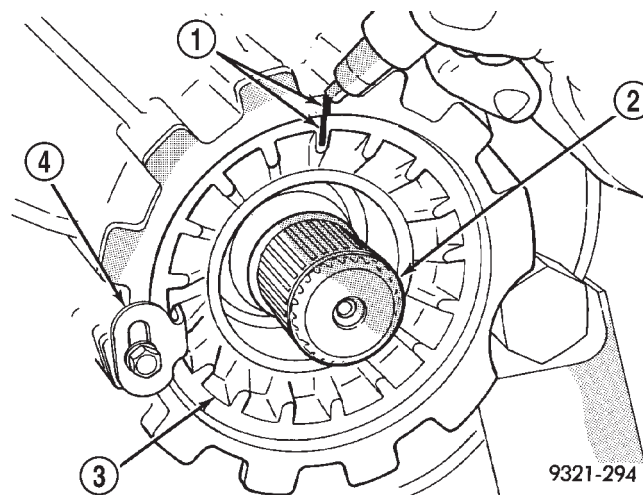

Fig. 109 Indexing Outer Adjuster
- (6) Index outer adjuster (Fig. 109). Remove lock bracket and back out adjuster exactly one revolution. Then remove differential cover.
- (7) Remove The inner adjuster lock bracket. Then remove the inner adjuster.